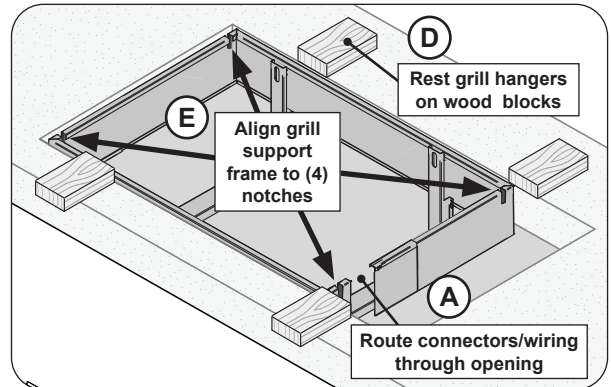
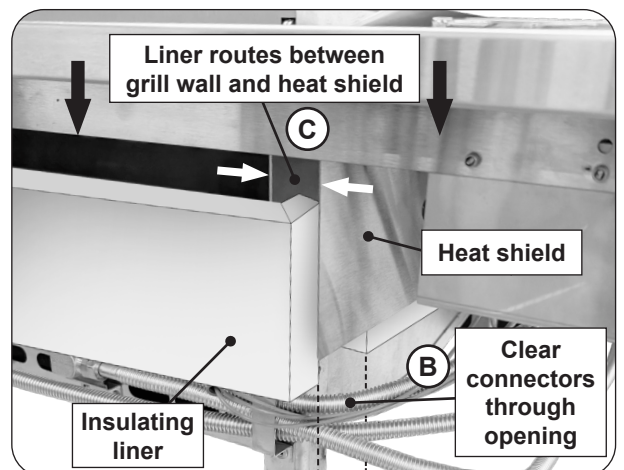
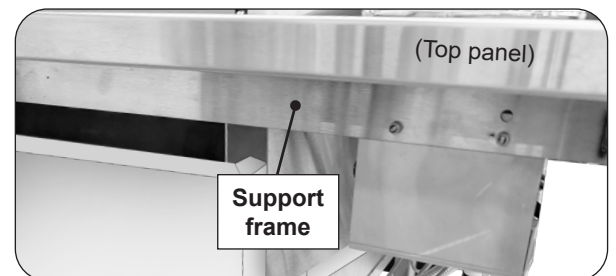
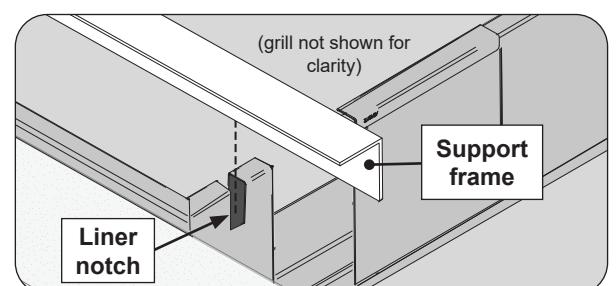

Fig. 4-2 Align grill to insulating liner
Fig. 4-3 Insert insulating liner
Fig. 4-4 Support frame
Fig. 4-5 Align brackets to notches
- While placing the grill, ensure the flex connectors and igniter wires (on the front portion of the grill) route through the clearance opening. See Fig. 4-2, A and Fig. 4-3, B.
- The right wall of insulating liner **MUST** position between the grill body and heat shield. See Fig. 4-3, C.
- **Rest the grill on the 2x4 wood blocks** (Fig. 4-2, D).
2. The wood blocks are used to assist in aligning the support frame (Fig. 4-4 and Fig. 4-5) with the four notches in the insulating liner (Fig. 4-2, E and Fig. 4-5).